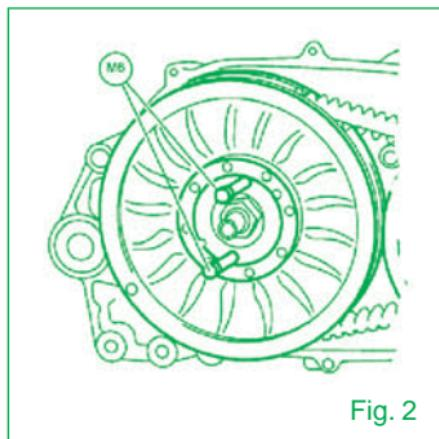

Fig. 2
- 5) Tighten two M6 screws with threaded length longer than 50 mm in the two holes of the secondary pulley. This allows you to move away the two pulleys so as to slacken the belt (Fig. 2).